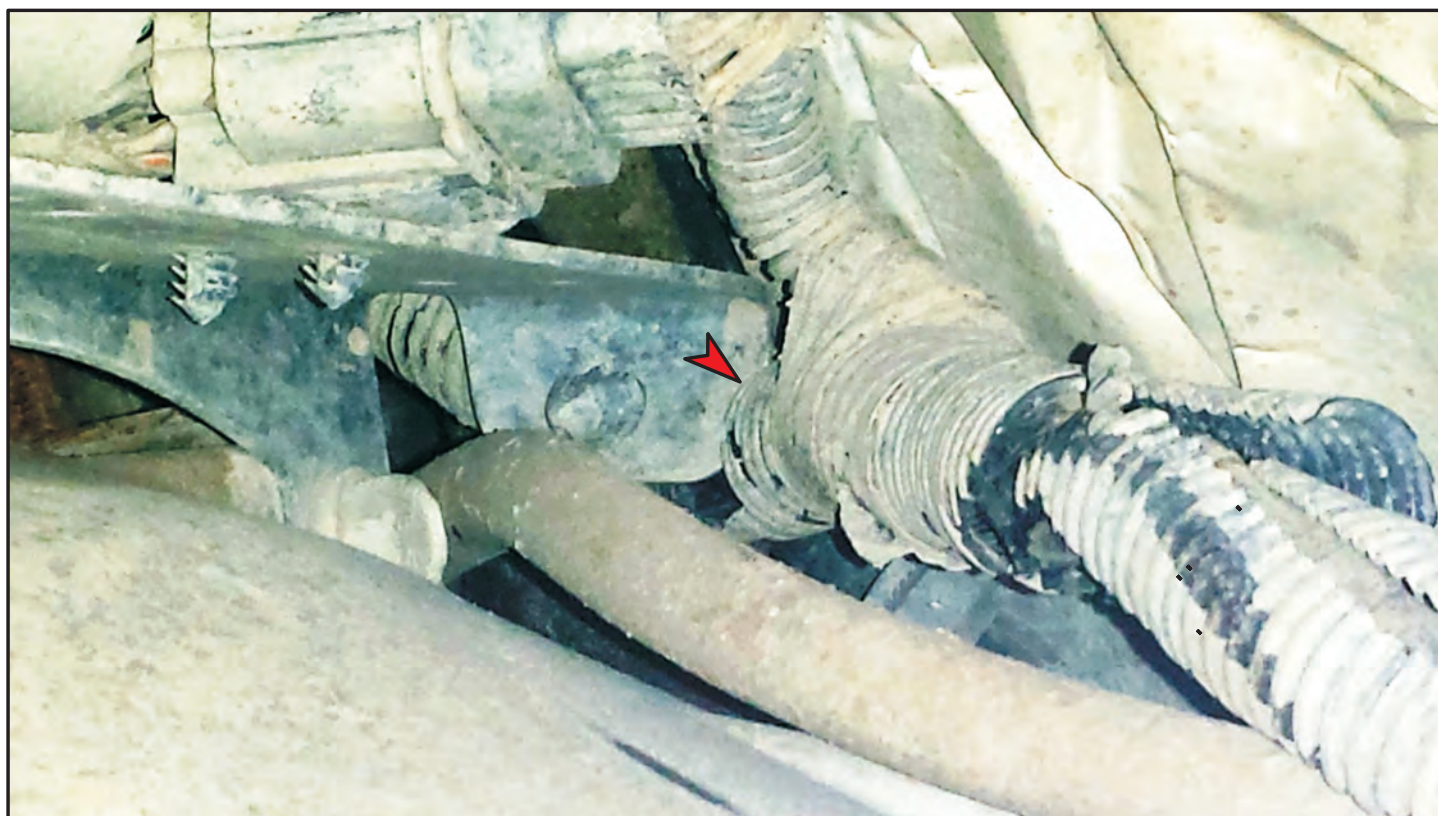

Figure 2
**CAUSE:** Once it was determined that this vehicle did not have a TCCM, wiring diagrams were pulled for the TIPM. This revealed a yellow with an orange tracer colored wire as being the 5 volt supply wire going to the TF case range position sensor from terminal 9 in the TIPM's C4 connector. When this wire was traced, it was discovered that it went through a loom down to the transmission. When this loom was viewed from underneath, a harness bracket was seen which was bolted down by a right side converter housing bolt (figure 2). A careful inspection in this area found that this bracket had dug itself into the wire loom piercing through a yellow wire with an orange tracer shorting it to ground (figure 3).